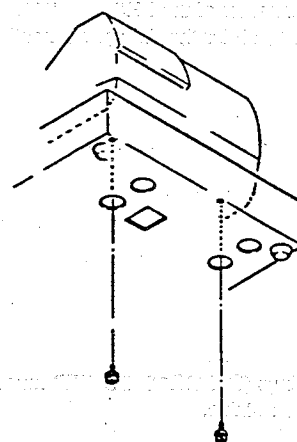

Fig. 14-12
4) Secure the front side of the drawer with the two screws removed at 1). (Fig. 14-12)